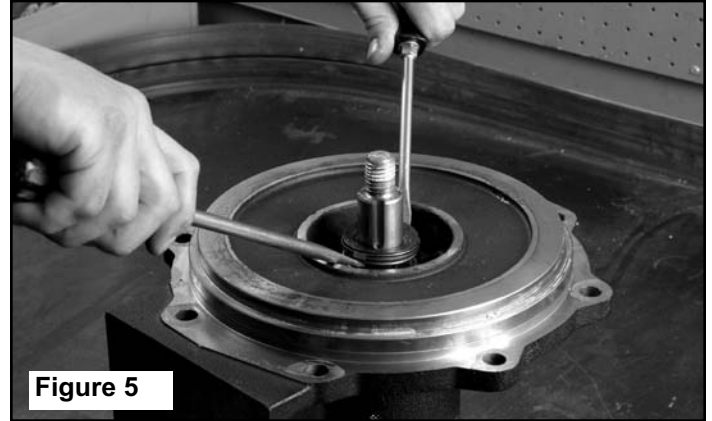

Figure 5
1. Lightly lubricate the shaft for easier removal of the seal. Using two screwdrivers positioned opposite each other, pry the rotary portion of the seal from the shaft (See Figure 5).